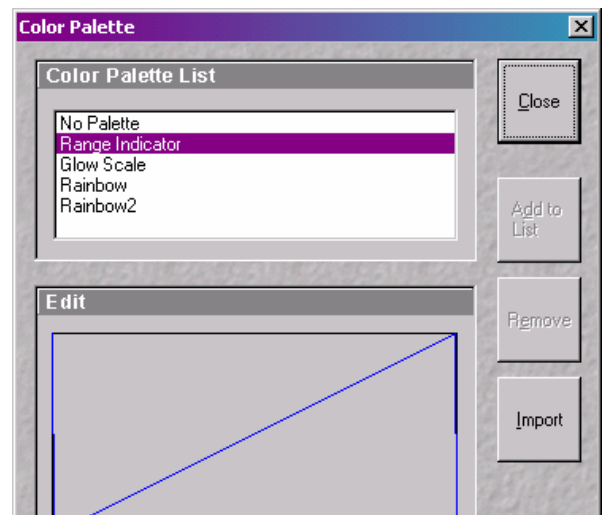

Fig. 20 Color Palette window
- In the **Color Palette List** panel, click on the **Range Indicator** item (Fig. 20).